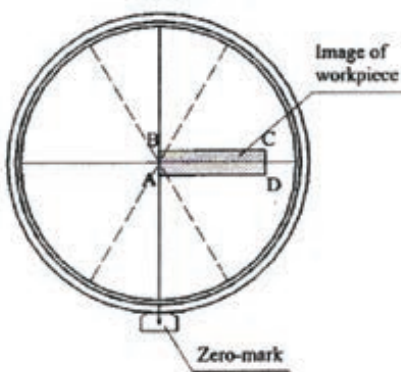

Fig.9 One-dimensional measuring
- Adjust the work piece parallel with the measuring axis. (See Fig.9) BC is parallel with X-axis.